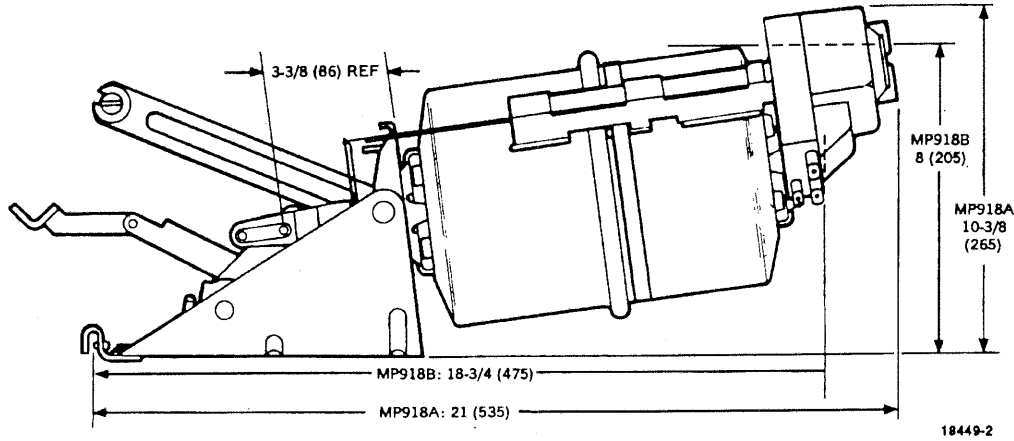

Fig. 10. Internal Mounting Normally Open Dimensions in Inches (Millimeters).
1. See Figure 10 for internal mounting normally open dimensions.